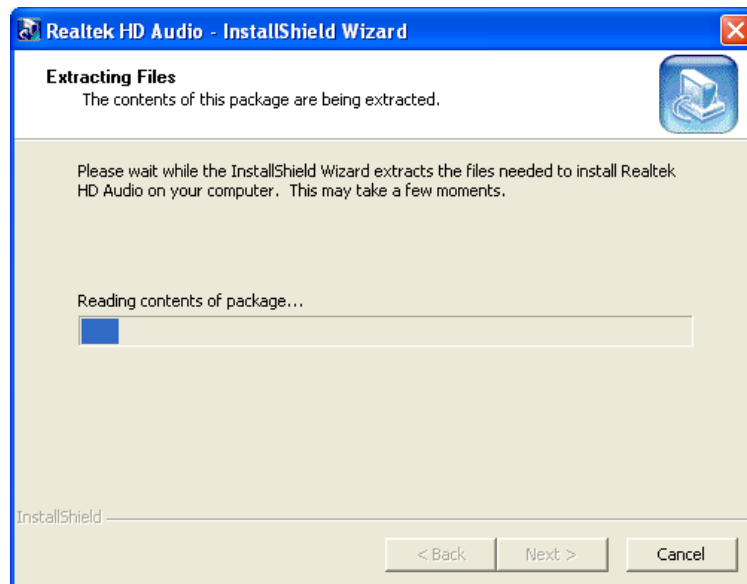

Figure 8-24: Preparing Setup Screen
Step 8: The InstallShield Wizard is prepared to guide the user through the rest of the process (**Figure 8-24**).